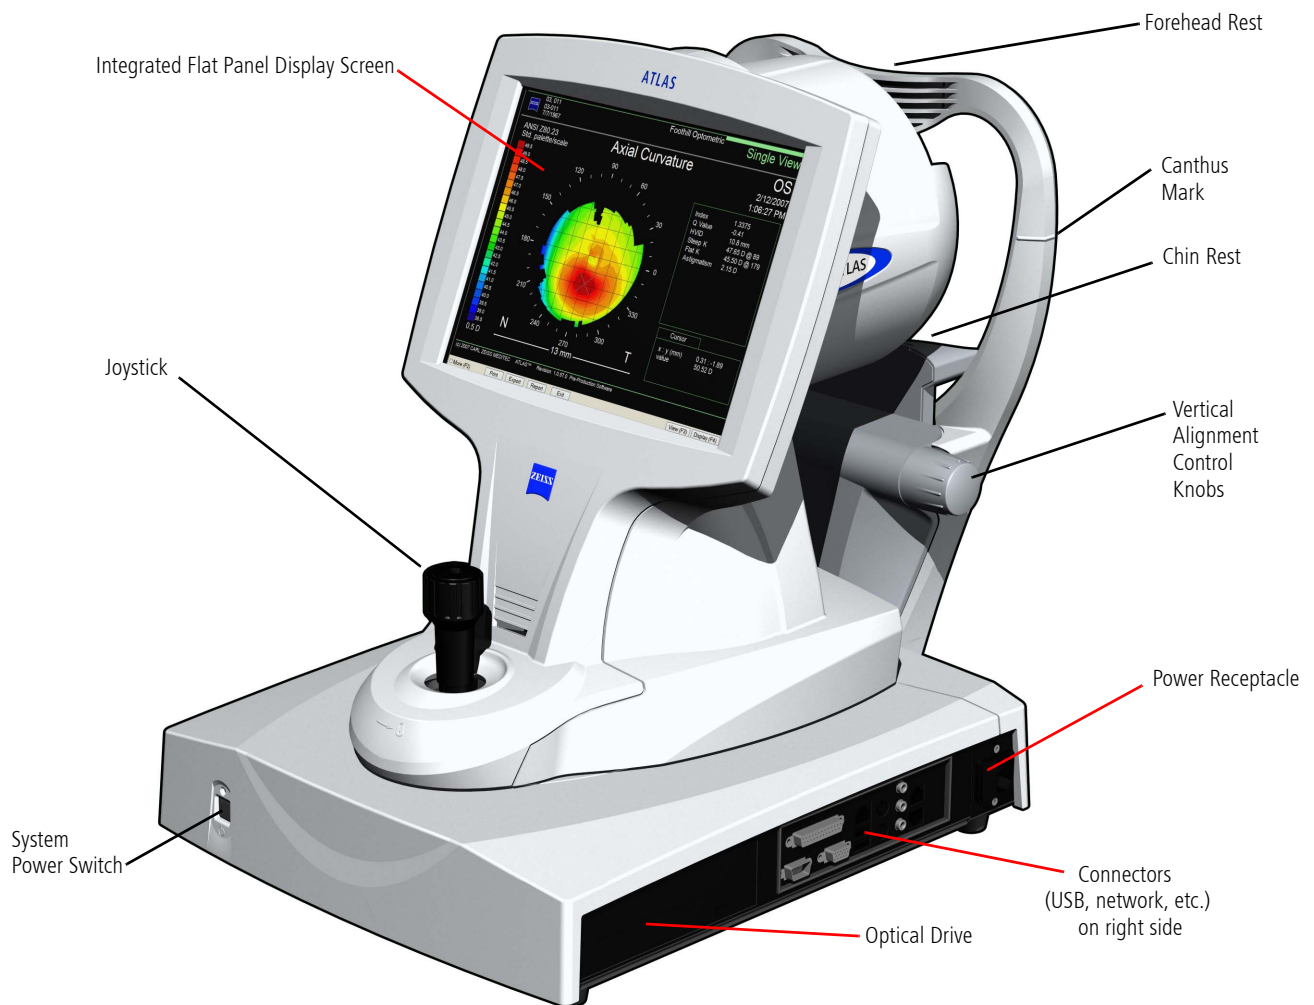
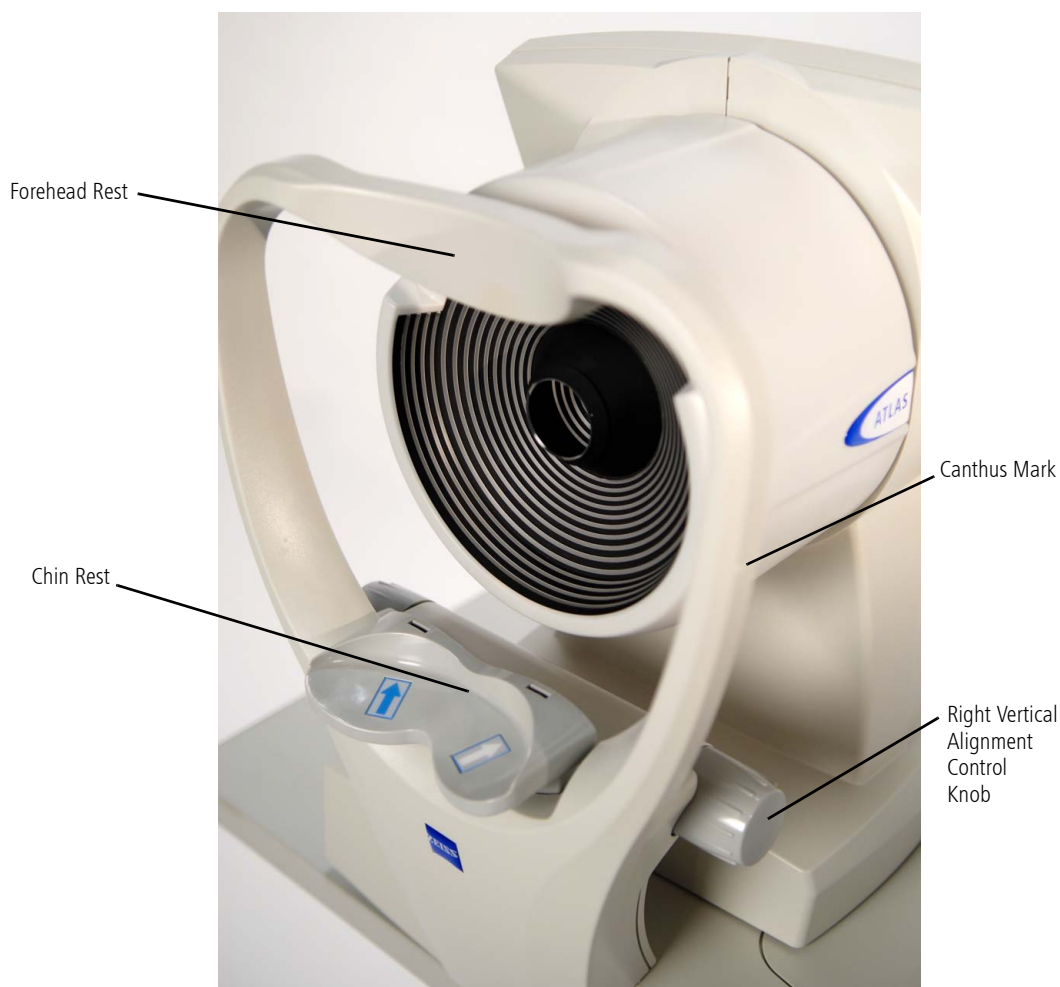

Figure 1-1 ATLAS System Hardware
Figure 1-2 Chin Rest Assembly
With the exception of the keyboard and printer, the ATLAS System integrates all hardware components in a unit, which includes the image acquisition optics, the system computer and flat panel display screen. Carl Zeiss Meditec offers an optional motorized power table (Figure 1-5 and Figure 1-12), which accommodates elevation adjustment to each patient's height. The illustration below (Figure 1-1) labels hardware elements. System specifications are in (K) Specifications.
The chin rest assembly (Figure 1-2) cradles the patient's chin and forehead during an examination. The chin rest can be adjusted vertically to align the patient's eye with the camera using control knobs on the left and right (see Figure 1-1 and Figure 1-2). You can raise or lower the chin rest to align the canthus (corner of the eye) with the canthus marks on the chin rest assembly. This special dual chin rest minimizes any nose shadow during an exam.
10. Plug the approved hospital grade power cord provided with the instrument into the power input receptacle (see Figure 1-1). Plug the other end of the power cord into a dedicated grounded power outlet.
13. Turn on the ATLAS instrument by pressing the system power switch, found on the front of the instrument facing the operator (see Figure 1-1).